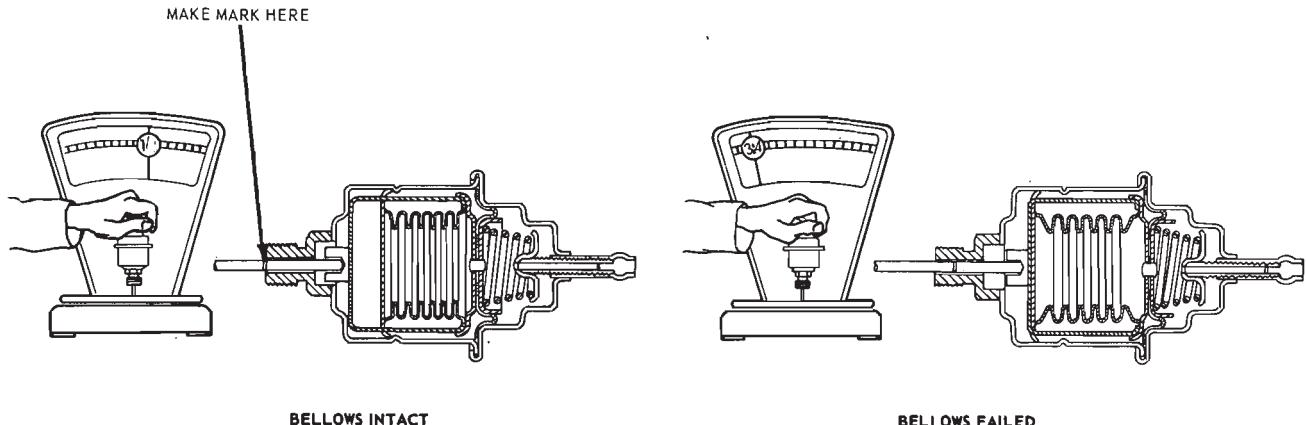

FIG. 9—Checking Vacuum Unit Bellows—Altitude Compensating Type
3. Hold the assembly in such a way that the end of the rod is resting on the weighting surface of a scale (Fig. 9).